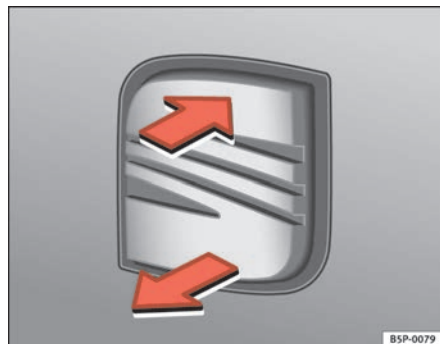

Fig. 64 Tailgate: opening from the outside
- Pull on the release lever and lift the tailgate ⇒ fig. 64. The tailgate will then open.